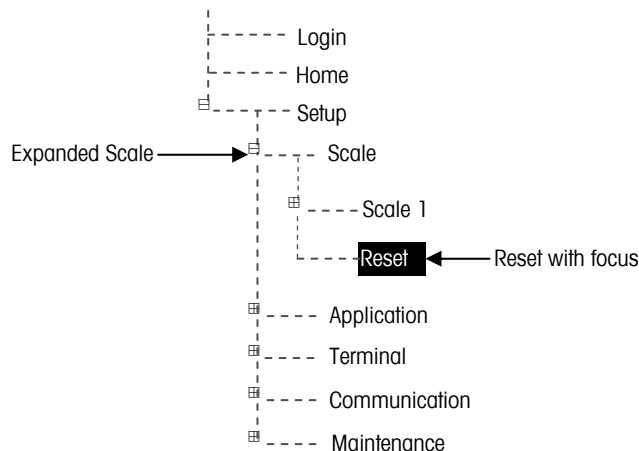

Figure 3-13: Setup Menu Tree—Reset
1. Press the SETUP softkey.  The setup menu tree displays (see Figure 3-13).